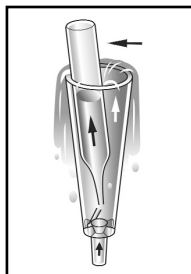

Figure 1
2. Place the CHEMet ampoule, tip first, into the sampling tube. Snap the tip. The ampoule will fill leaving a bubble for mixing (fig 1).